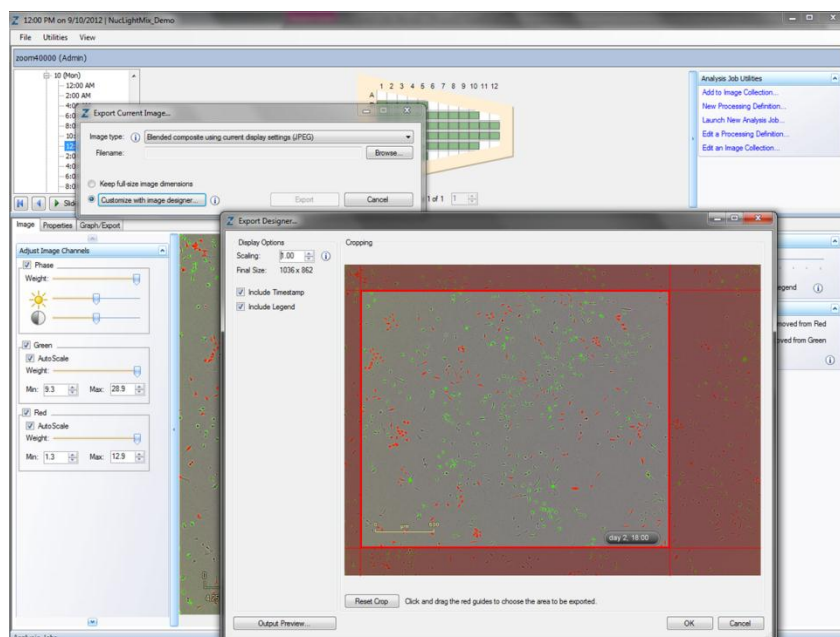

Figure 23. The Export Current Image Window with Export Designer Open
To export only the SINGLE image that is currently displayed in the Vessel View window following the steps specified below (refer to Figure 23);
8. Click the “Movie Designer” button and a new window appears that is virtually identical to the Export Designer shown in Figure 23 of the “Export Current Image (Single Image)” section. As discussed in that section, the designer is used to interactively crop and scale movie frames and to add a legend or timestamp to each image if desired. If a Timestamp is added, then a timestamp that displays the corresponding time (days, hours and minutes) will appear on each frame of the movie. If Show Legend is selected, a scale bar and field of view dimensions will appear in the exported image or movie as they do in Vessel View. In